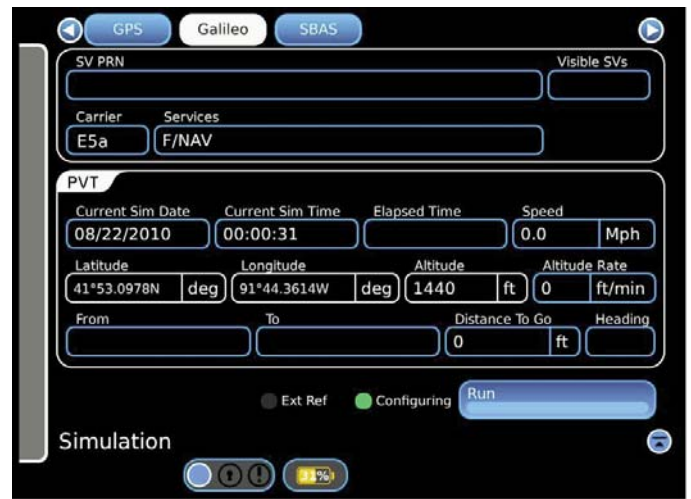

Figure 8
10. On both GPSG-1000 units Simulation screen press the Run switch. You should note that both GPSG-1000 units configure the simulation, but, the time and date data on the Simulation screen should not update. See Figure 8.